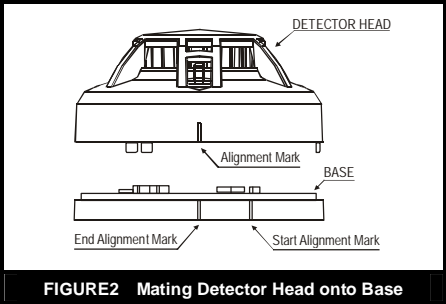

FIGURE2 Mating Detector Head onto Base
1. Align detector head alignment mark line with the base's start alignment mark line as shown in Figure 2